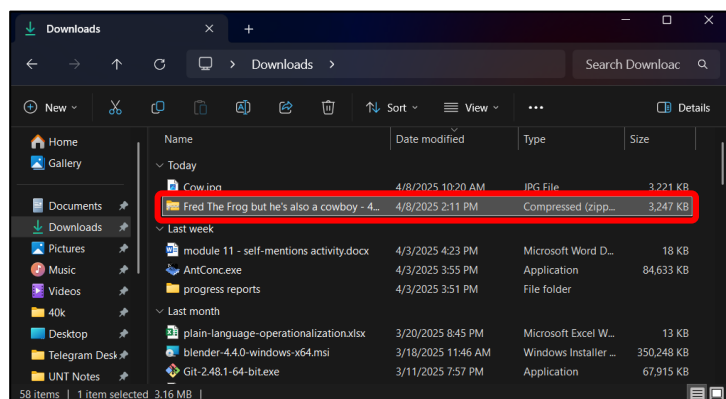

Figure 8: Finding the downloaded file(s) in file explorer.
8) Locate the downloaded file(s) in File Explorer. (Figure 8)